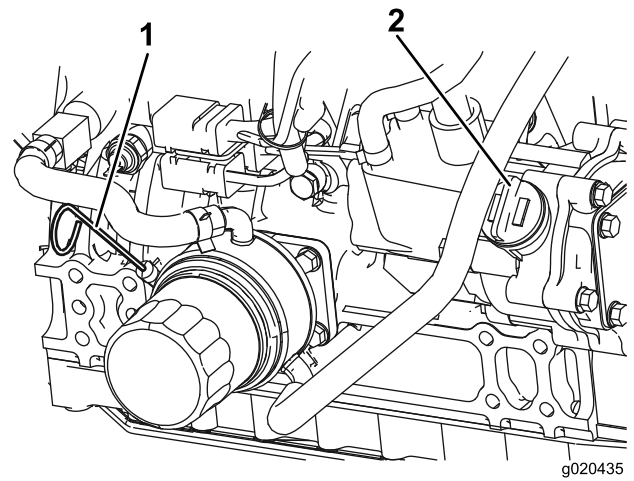

Figure 10
3. Remove the dipstick, wipe it clean, install the dipstick into the tube, and pull it out again. The oil level should be between the full and add marks (Figure 10).
4. If the oil level is low, remove the fill cap (Figure 10) and add oil until it is between the full and add marks. **Do not overfill.**